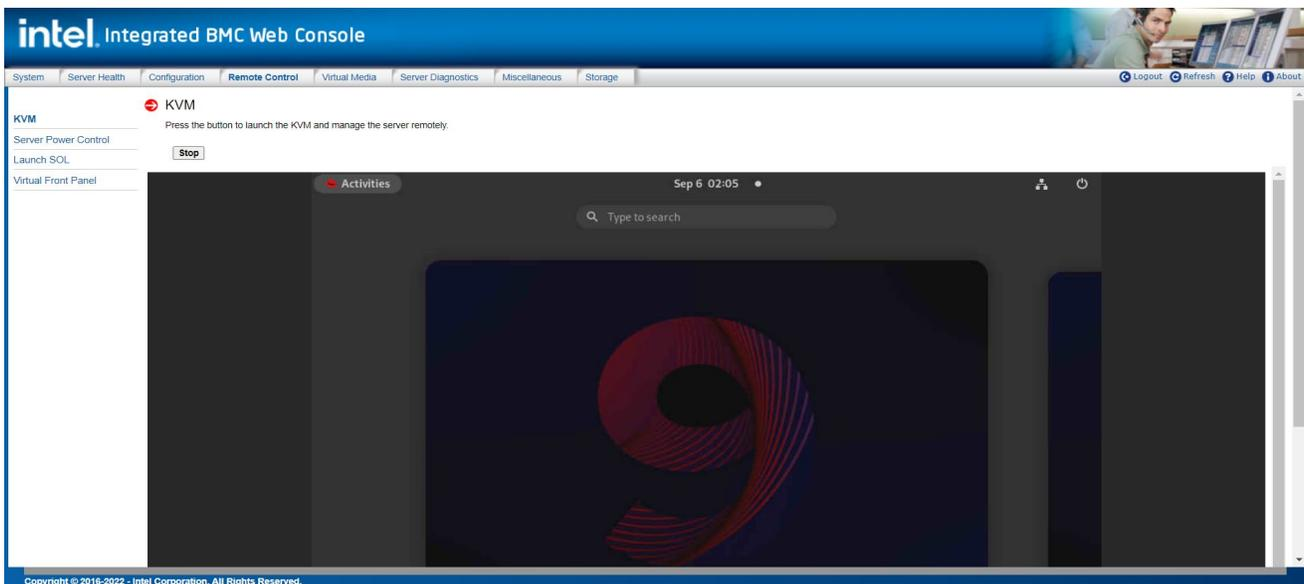

Figure 65. Remote Control Console Redirection Page
4. To confirm activation of the Advanced Management License Key, type the following command line. See Figure 65.
When the Start button is clicked, the remote server screen displays in the current page. See Figure 65.